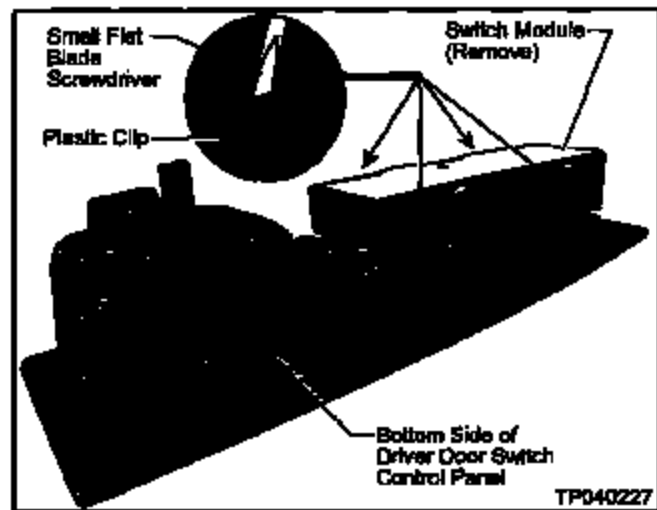

Figure D3
- c. Use a small flat blade screwdriver to release the four Plastic Clips from the Switch Module (see Figure D3).